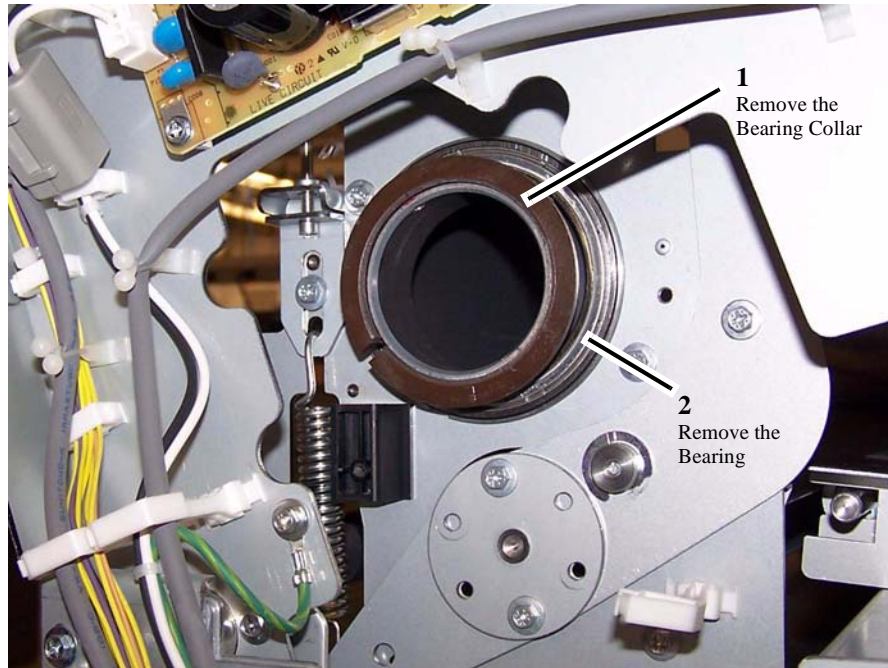

Figure 8 Removing the Bearing Collar and the Bearing (right end of Fuser Roll)
- c. Remove the Bearing Collar (Insulator) and the Bearing (Figure 8).